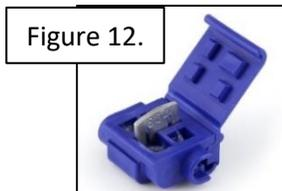

Figure 12.
**Note:** Two 18-14 AWG Gel Filled Wire Pico Tap connectors are included for splicing into existing wires. See Figure 12.